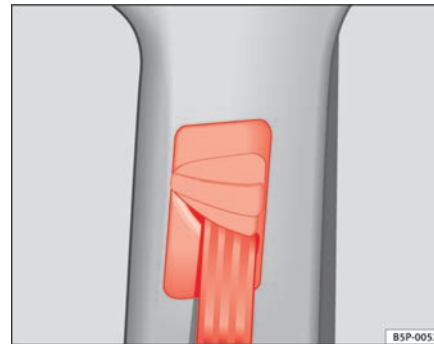

Fig. 16 Location of the belt height adjuster
- Press the upper part of the shoulder belt guide and hold it in this position ⇒ page 26, fig. 16.